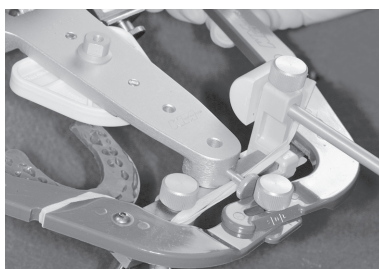

Figure 21
5. Allow the anterior end of the upper frame of the articulator to rest on the horizontal crossbar of the facebow. (Figure 21)